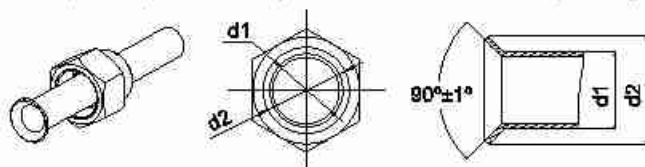

Fig.5
- (1). Cut the connection pipe with the pipe cutter and remove the burrs.
- (2). Hold the pipe downward to prevent cuttings from entering the pipe.
- (3). Remove the flare nuts at the stop valve of the outdoor unit and inside the accessory bag of the indoor unit, then insert them to the connection pipe, after that, flare the connection pipe with a flaring tool.
- (4). Check if the flare part is spread evenly and there are no cracks (see Fig.5).